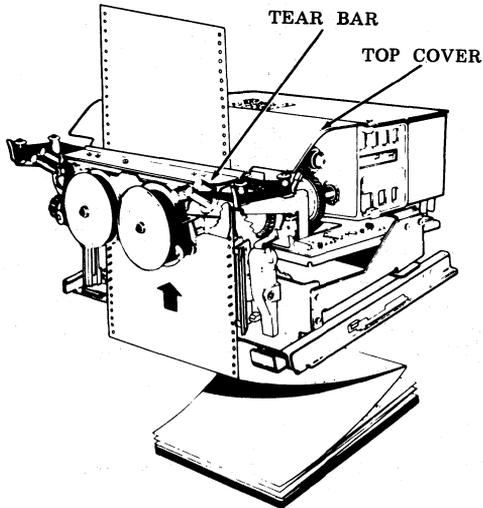

Fig. 59—Paper Routing
- (c) Insert paper up through the paper guide chute, behind the ribbon shield and out the slot between the tear bar and top cover before engaging feed holes (Fig. 59).